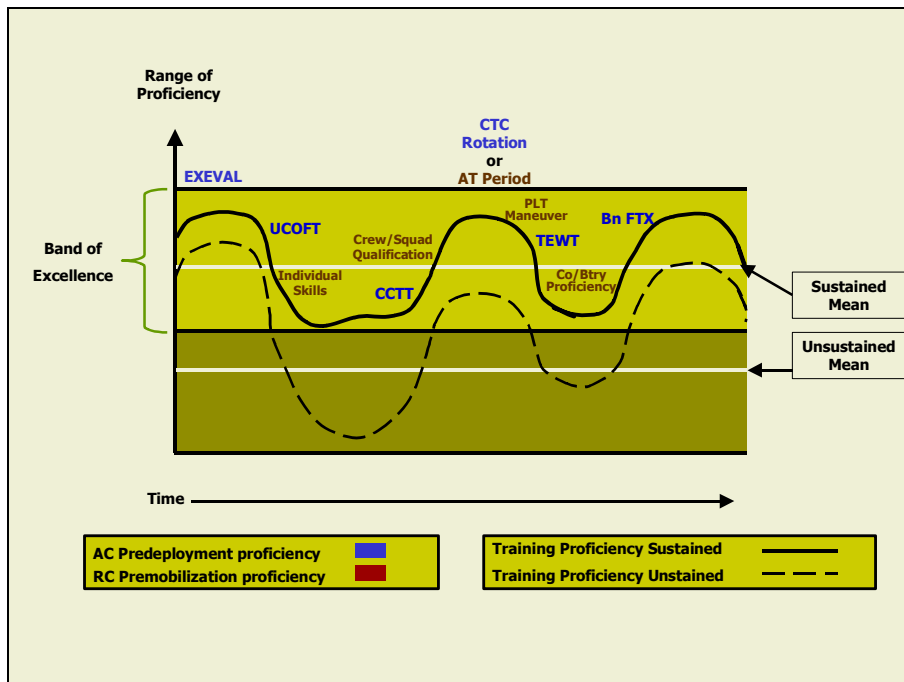

Figure 1-8. Bond of Excellence
(1) Sustainment training must occur often enough to train new soldiers and reduce skill decay. Army units train to accomplish their missions by frequent sustainment training on critical tasks. Infrequent "peaking" of training for an event (CTC rotation, for example) does not sustain wartime proficiency. Battle-focused training is training on wartime tasks. Many of the METL tasks that a unit trains on for its wartime mission are the same as required for a stability operation or support operation that they might execute.
(2) Sustainment training enables units to operate in a Band of Excellence (Figure 1-8) through appropriate repetition of critical tasks. The Band of Excellence is the range of proficiency within which a unit is capable of executing its wartime METL tasks. For RC units the Band of Excellence is the range of proficiency within which a unit is capable of executing its pre-mobilization tasks. Training to sustain proficiency in the Band of Excellence includes training of leaders, battle staffs, and small lethal units. The solid black line shows the results of an effective unit training strategy that sustains training proficiency over time, maintaining it within the Band of Excellence. The dotted black line shows an ineffective training strategy that often causes the unit to fall outside the Band of Excellence, thus requiring significant additional training before the unit is capable of executing its wartime METL tasks. Personnel turbulence and availability of resources pose a continuous challenge to maintaining METL proficiency within the Band of Excellence.